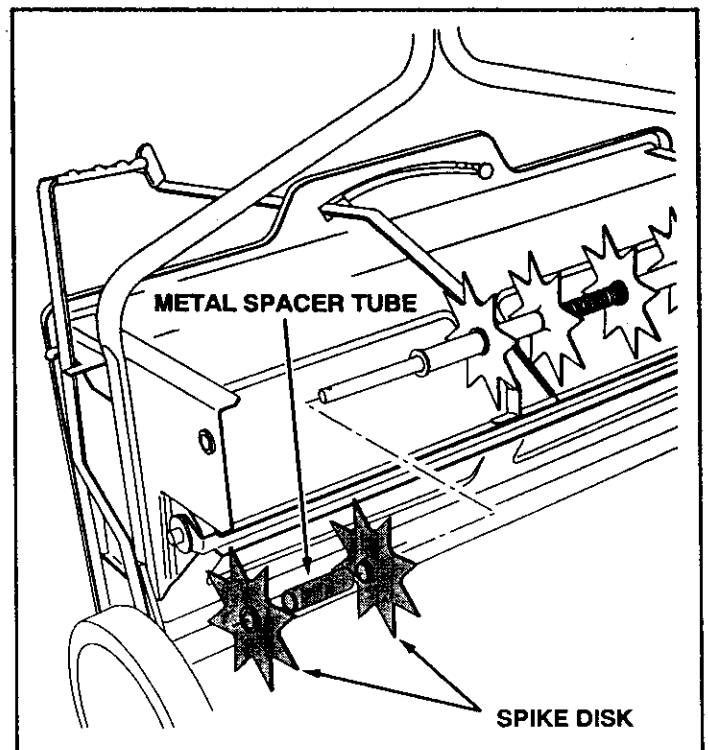

FIGURE 19
- Place two spike disks, separated by a metal spacer tube, onto the shaft. Fit the metal spacer tube onto the ends of the flanged bearings in the disks. See figure 19.